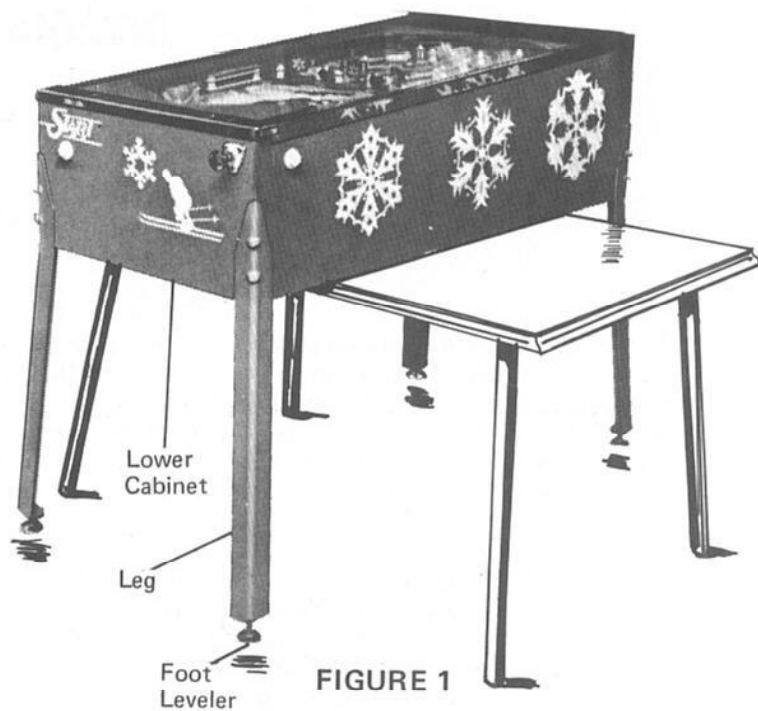

FIGURE 1
1. Position lower cabinet on top of a bar, table or other surface that is at least 28" from floor. (Figure 1).
2. Attach the four (4) legs as shown using Hex Head Bolts, 5/16-18x2 1/4", and flat washers from hardware bag. (Figure 1).